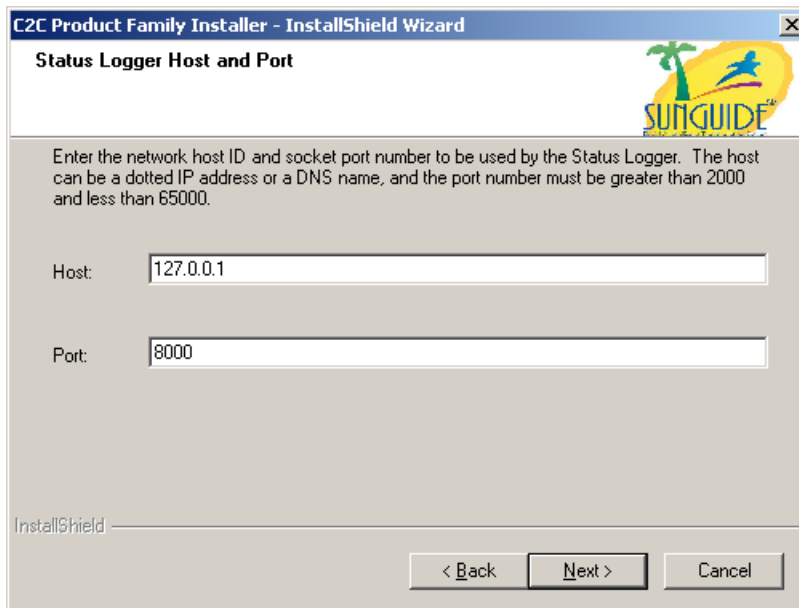

Figure 3-25 Status Logger Host and Port Dialog
The next dialog displayed is the Status Logger Host and Port Dialog shown in Figure 3-25. This dialog is used to specify Internet Protocol (IP) address and port number for communicating to the Status Logger. Each of the software components communicates to the Status Logger to log status messages during execution. The Status Logger is delivered as a separate product with its own setup program. Refer to the Status Logger Software Users Manual for installation and usage of the Status Logger. Enter the IP address and port number for the Status Logger service and press the **Next** button; or, press the **Back** button to return to the previous dialog; or, press the **Cancel** button to exit the installation.